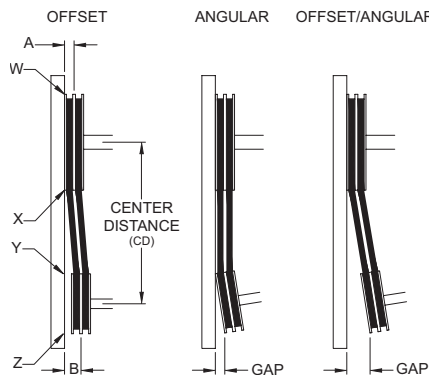
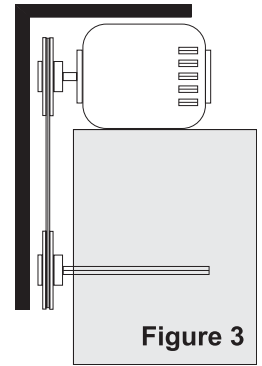

Figure 2
Figure 3
4. Ensure pulleys are properly aligned. Refer to *Figure 2*.
Figure 2 indicates where to measure the allowable gap for the drive alignment tolerance. All contact points (indicated by WXYZ) are to have a gap less than the tolerance shown in the table. When the pulleys are not the same width, the allowable gap must be adjusted by half of the difference in width. *Figure 3* illustrates using a carpenter's square to adjust the position of the motor pulley until the belt *Figure 3* is parallel to the longer leg of the square.